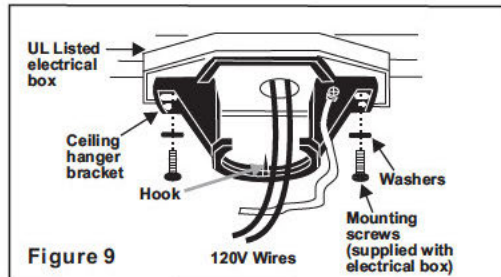

Figure 9
**Step 3.** Pass the 120 volt supply wires through the center hole in the ceiling hanger bracket as shown in Fig. 9.